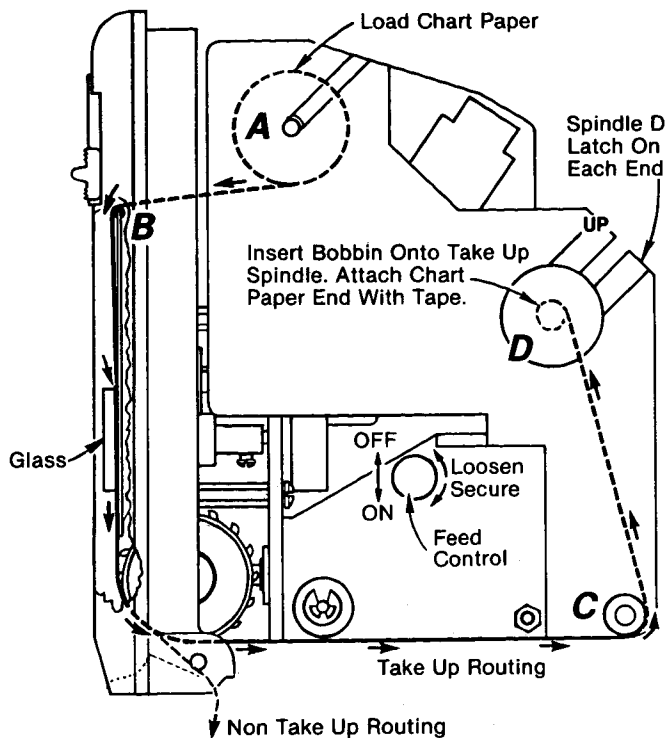

Fig. 7
1. a) To insert chart paper, place recorder in horizontal position and press the release button in the direction shown in fig. 6. Raise the recorder mechanism to a vertical position until it locks. Remove chart spindle (A) (see fig. 7) and place chart roll on spindle. Remove tape on roll and retain tape for securing chart on take-up spindle (D). Unroll about 12" to 15" and route paper over top edge of scale plate (B) underneath glass, over the sprocket wheels, to the rear and over the idle roller (C) up to the cardboard bobbin mounted on take-up spindle (D). Secure edge of chart to bobbin with tape. Make sure the sprocket holes in the paper engage the sprocket wheels. Be sure that feed control is tight and in the right position. The word "on" must be visible. Press in the idle roller extension (C) to allow the recording mechanism to move back down into case and lock into position. Replace cover by positioning the "U" bend onto the projections above the chart well opening. Make sure chart paper is not binding with the cover in place. For "non-take-up" recording, route chart through bottom slot as shown in fig. 7.